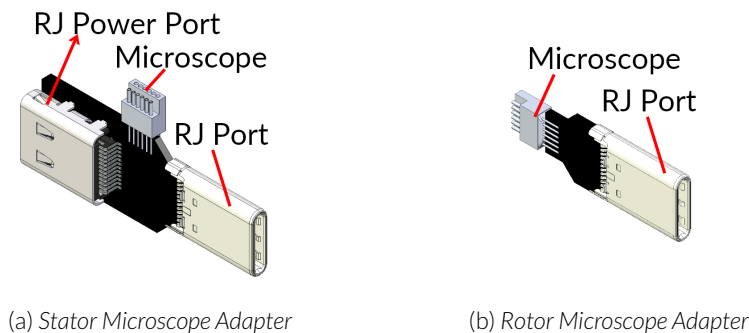

Figure 1.4: Microscope Rotary Joint Adapters
- The **Microscope** adapter (Fig. 1.4) is used with many electrophysiology systems, as well as our *2-color* & *efocus Miniature Fluorescence Microscopes*.